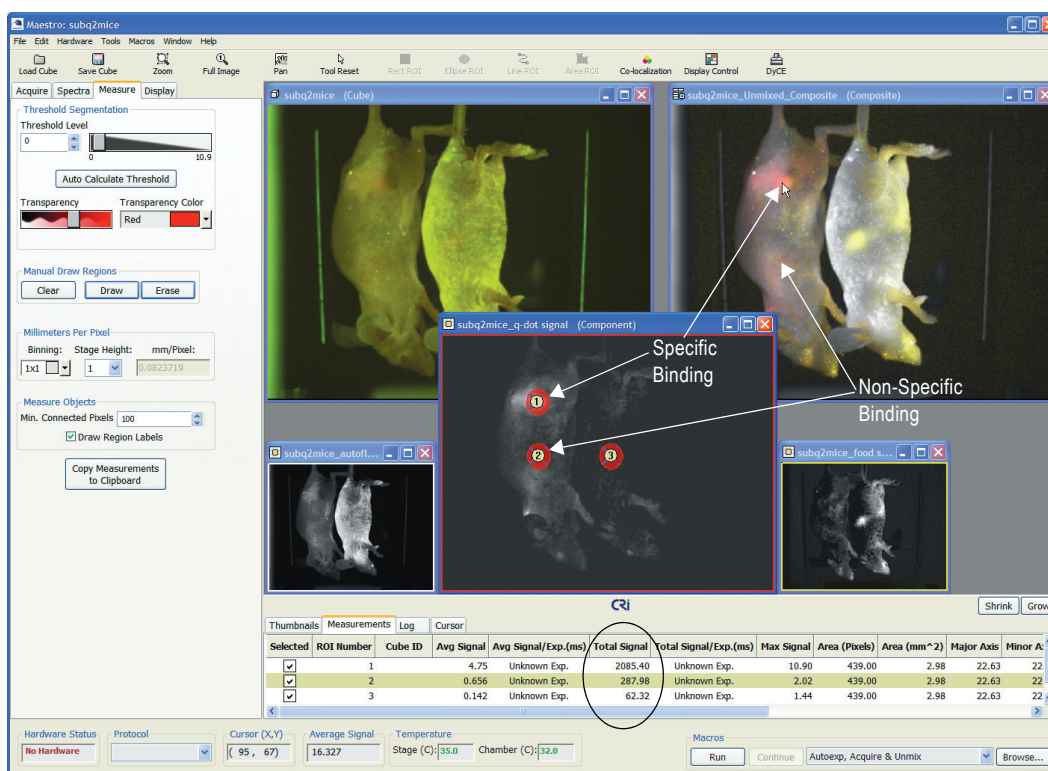

Figure 29. Images Showing Pure Unmixed Signals
- i. The Maestro software unmixes the cube and displays the component and composite images in the image gallery (Figure 29).